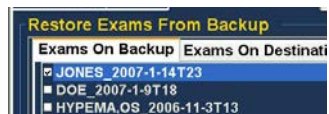

Figure 8.21 - First Exam Selected
2. The selected exam will appear in the “Selected Exams To Be Restored” list as shown in Figure 8.21.